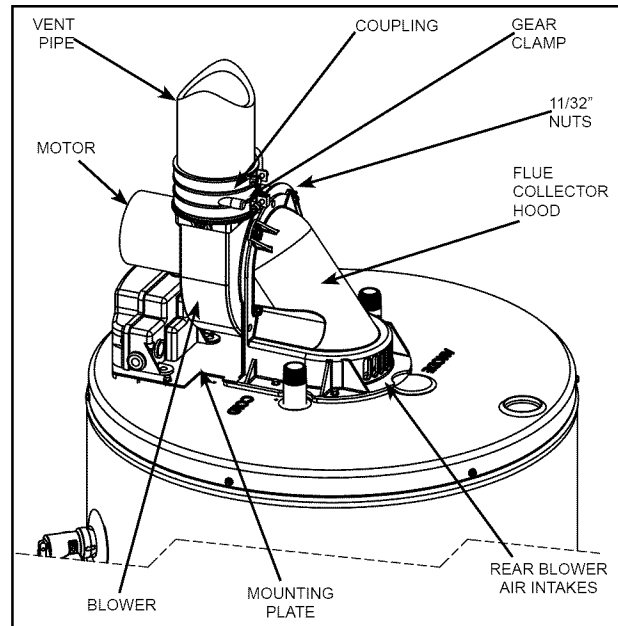

Figure 48
4. Disconnect the vent piping from the top of the blower. Loosen the lower gear clamp that holds the rubber coupling to the blower (see Figure 48).